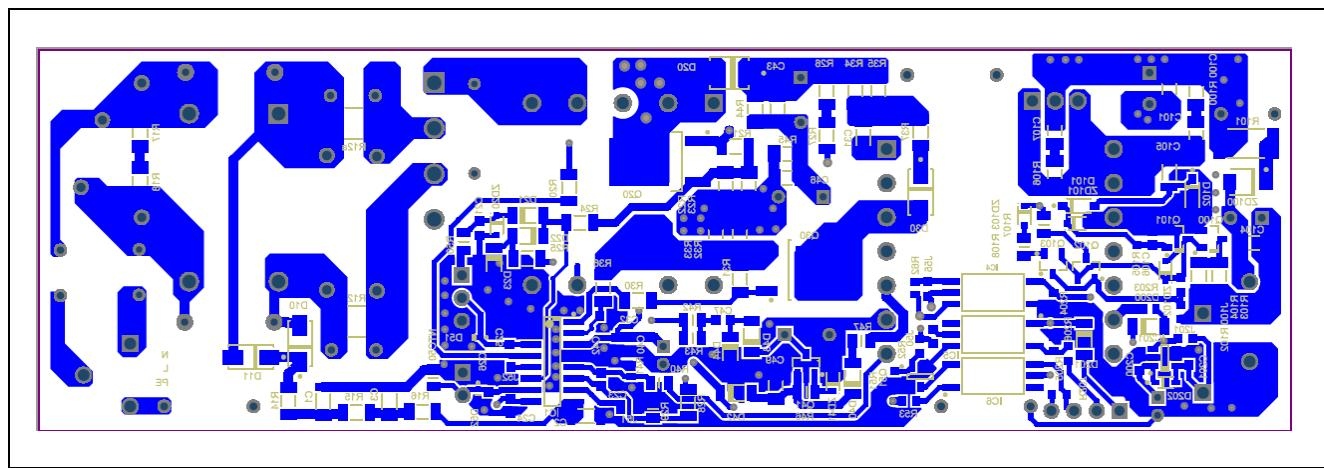

**Figure 2 Schematic of the 50 W reference design**
**Figure 2** shows the complete schematic of the 50 W reference design: